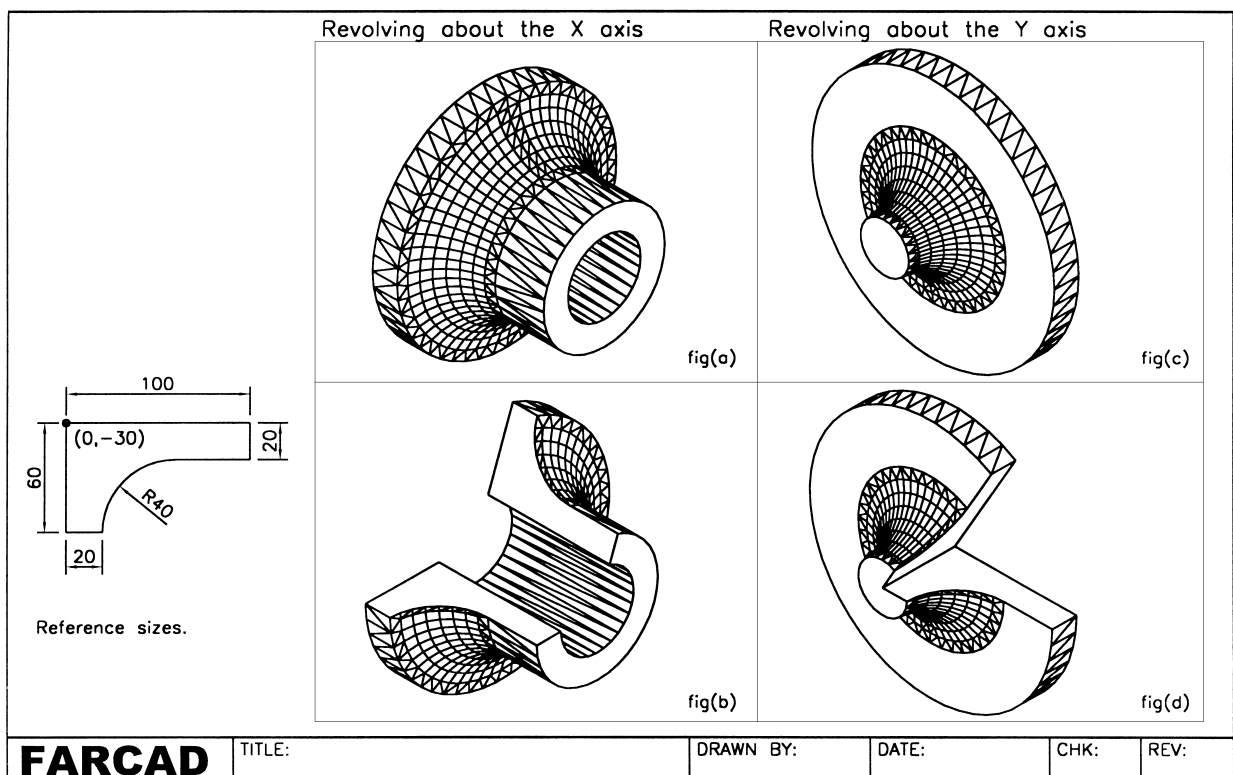

Figure 29.6 Revolved example 2 – a shaft.
- 4 Refer to Fig. 29.6 and draw a **closed** polyline outline using the sizes given. Use the (0,-30) start point. Note that I have only displayed the 3D viewport with this exercise. This was for convenience purposes only